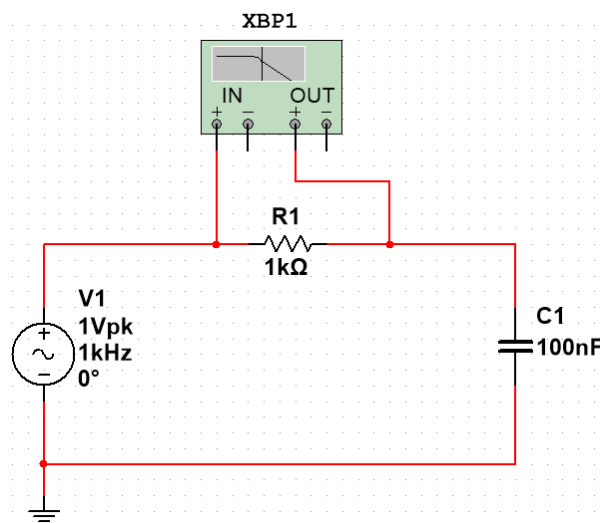

Figure 9. RC Circuit with Bode plotter.
3. Connect the + lead of **IN** to the wire between **V1** and **R1** and the + lead of **OUT** to the wire between **R1** and **C1** (Figure 9).